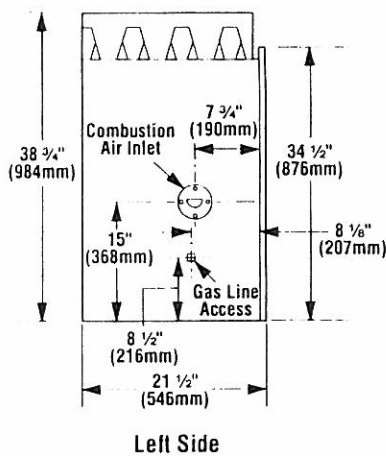

Figure 10
Step 4. Fireplace may be anchored to the floor. Bend down four (4) anchor tabs located at the base of the fireplace and secure to the floor by nailing with 8d nails (Figure 10).